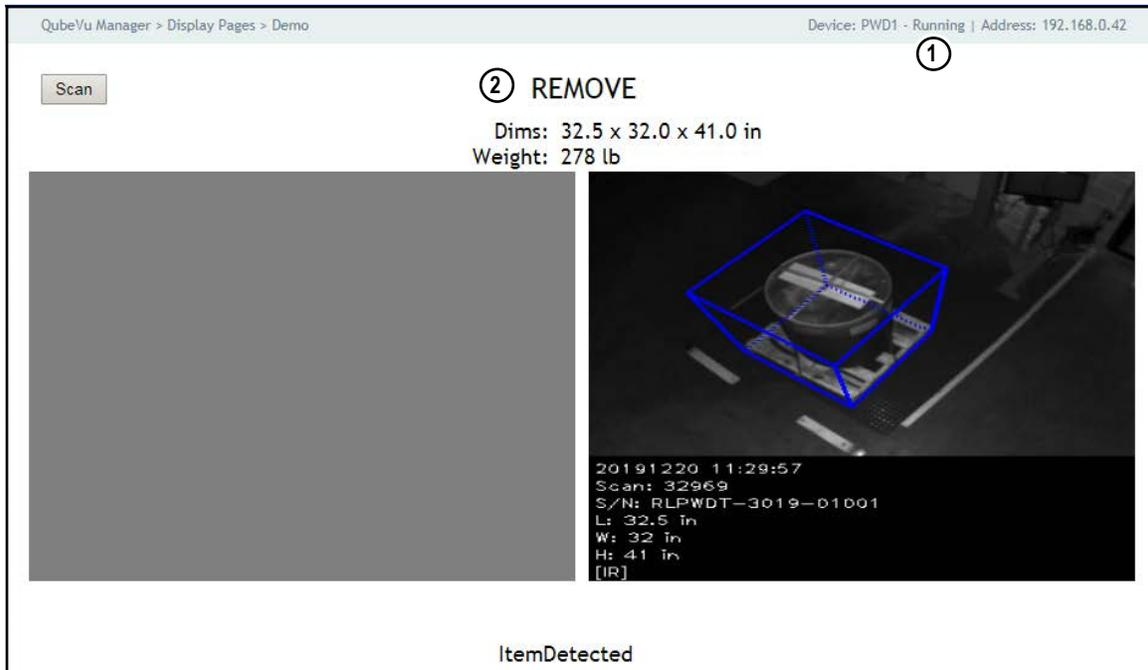

Figure 12-14. Demo Display
**NOTE:** The dimensioner uses 3D camera sensors that provide a gray scale image of the object being dimensioned. Each image will have a blue bounding box superimposed on the image showing the smallest cube the cuboidal or irregular object can fit within (see Figure 12-14).